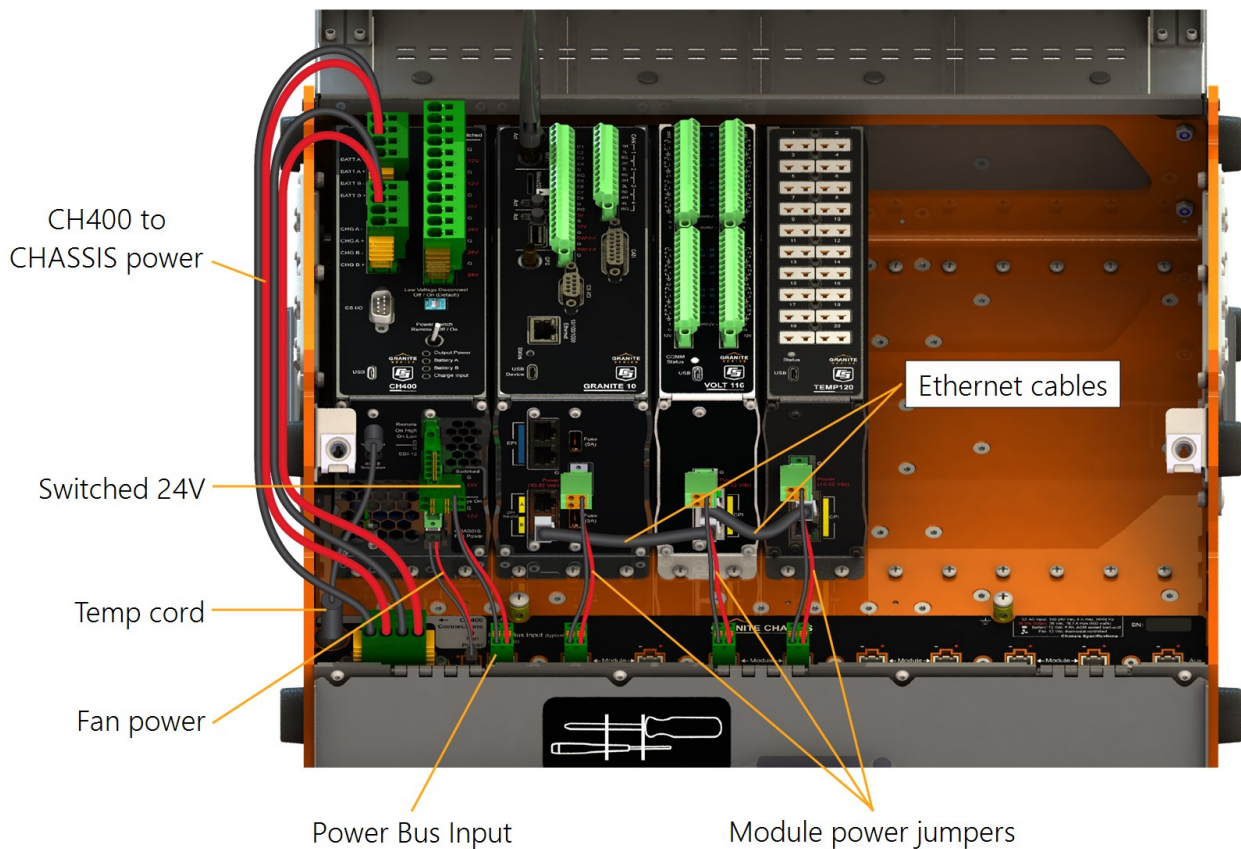

FIGURE 4-1. Typical CHASSIS setup
6. Plug the **Temp** cord, with stereo plug, into the CH400 **BATT A Temperature** port. See FIGURE 4-1 (p. 6) for steps 6 through 10.
The GRANITE CHASSIS includes a high performance 8-Ah onboard battery. Typically this battery is trickle charged using a CH400 (see FIGURE 4-1 (p. 6)) or other regulator such as the one built-in to the GRANITE 6 DAQ. See the following figure. For complex battery configurations refer to the CH400 product manual.